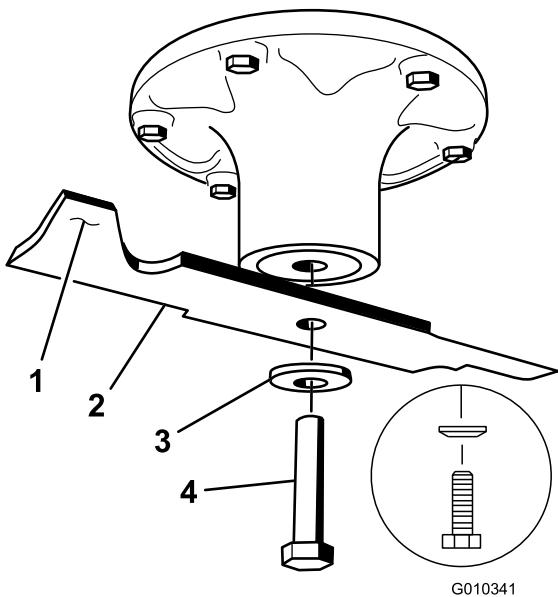
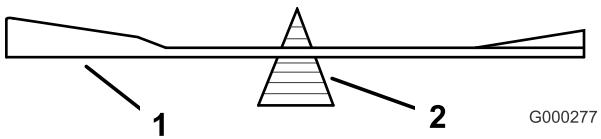

Figure 55
Figure 57
Hold the blade end using a rag or thickly-padded glove. Remove the blade bolt, curved washer, and blade from the spindle shaft (Figure 55).
1. Install the blade onto the spindle shaft (Figure 55).
2. Install the spring disk and blade bolt. The spring disk cone must be installed toward the bolt head (Figure 55). Torque the blade bolt to 100-110 ft-lb (135-150 N-m).
2. Check the balance of the blade by putting it on a blade balancer (Figure 57). If the blade stays in a horizontal position, the blade is balanced and can be used. If the blade is not balanced, file some metal off the end of the sail area only (Figure 55). Repeat this procedure until the blade is balanced.